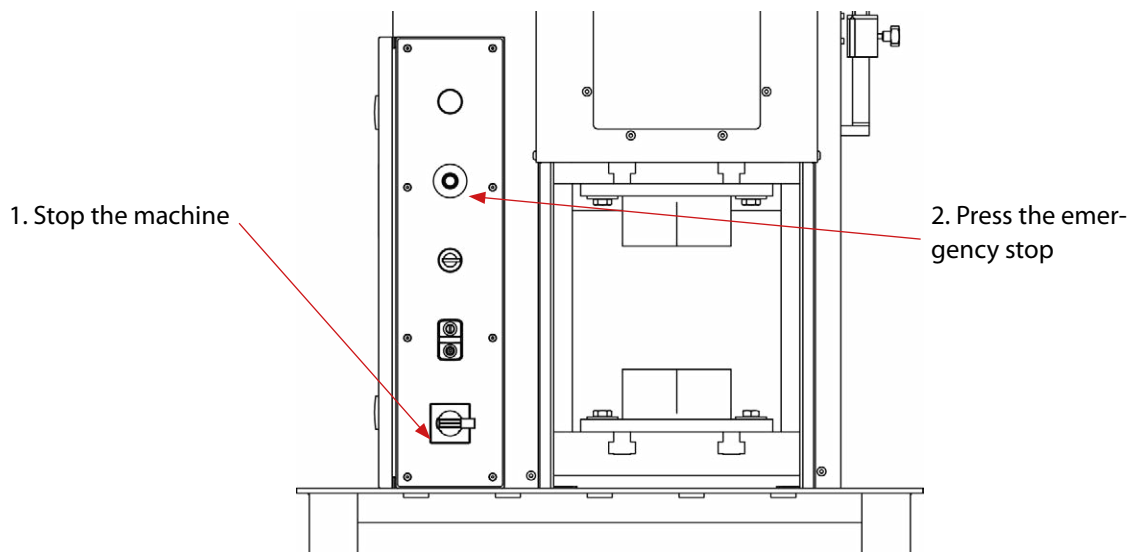

Figure 6. Machine stop and emergency stop
**ATTENTION:** Stop the machine and press the emergency stop button to change the oil. (Figure 6) Once the oil has been changed, start the machine and press the pedal intermittently to gradually increase the pressure time until the circuit fills. You'll see how the machine engages in the normal operation run.